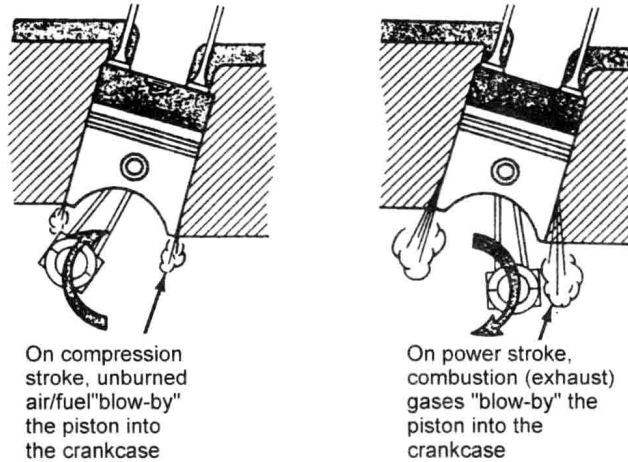

Fig. 1-5
Leakage of gases past the rings during the power stroke is called blow-by③(Fig. 1-5). Blow-by causes pressure in the crankcase.